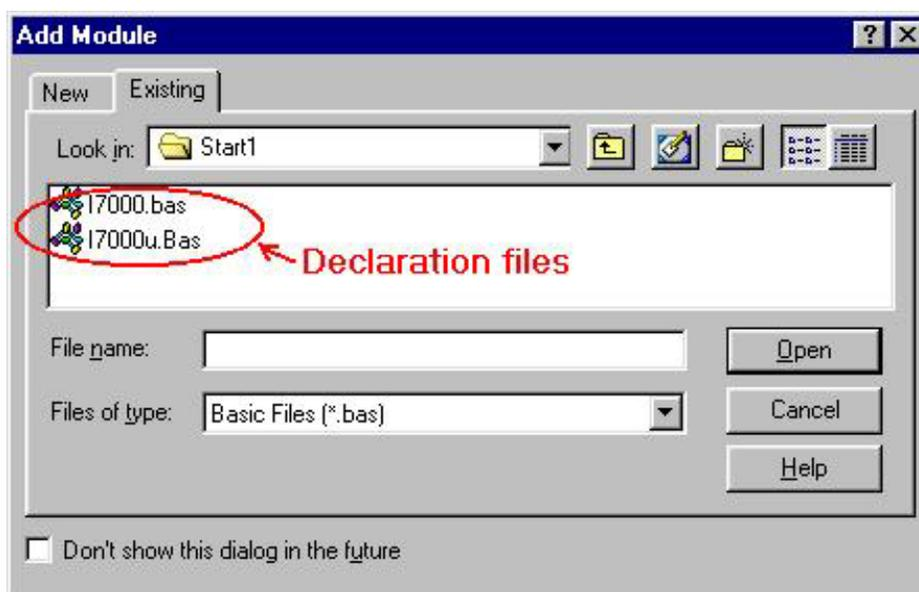

Figure 1-1-7. Add the declaration files
6. After the “Add Module” window appears, select the “Existing” tab and locate your project folder. Select the declaration files required and then click on the “open” button to add them to your project. Refer to Figure 1-1-7.